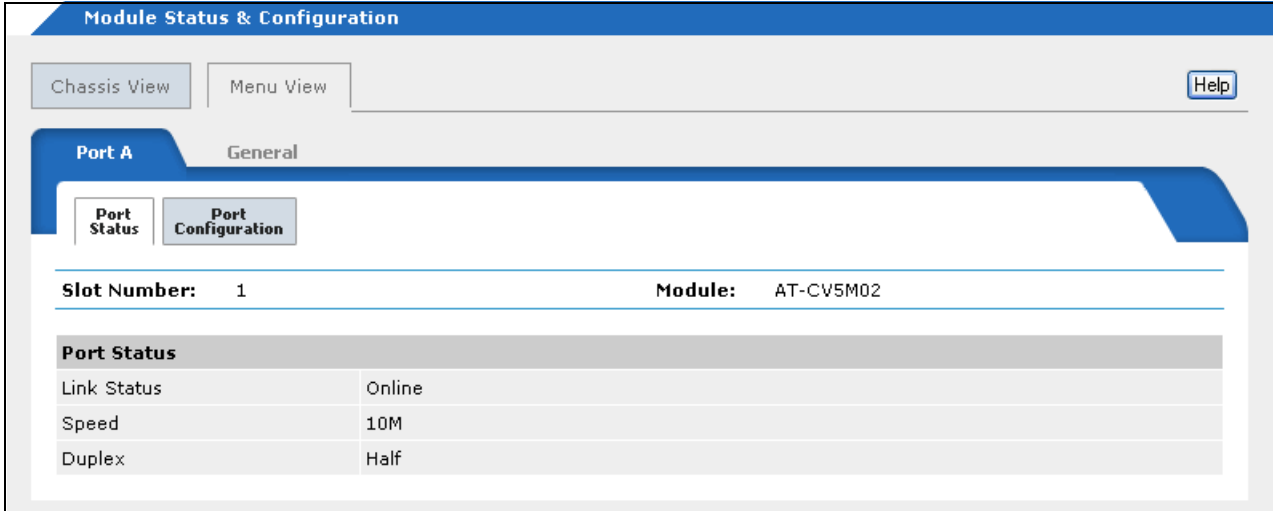

Figure 45. Port A Tab for the Management Card
2. In the Chassis View, click the 10/100Base-TX port on the management card. Alternatively, select the Menu View tab and click the name of the management card. The Port A tab for the management card is shown in Figure 45.
2. In the Chassis View, click the 10/100Base-TX port on the AT-CV5M02 Management Card. Alternatively, select the Menu View tab and click the name of the management card. The Port A tab for the management card is shown in Figure 45 on page 136.